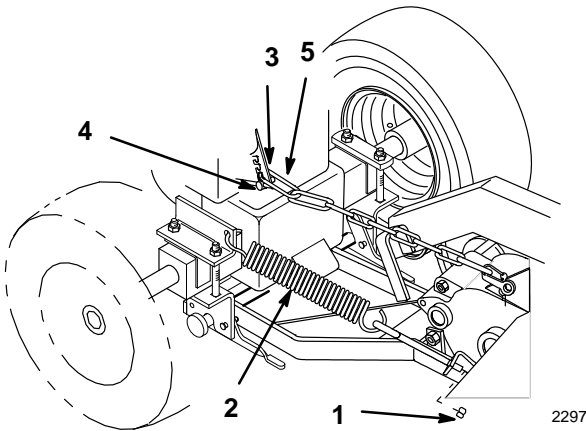

Figure 21
12. Loosen lock nut on eye bolt and unhook lift assist spring from tractor (Fig. 21).
14. Remove hairpin cotter and trunnion from lift arm and unhook long link of lift chain from lift arm (Fig. 21). Install trunnion and hairpin cotter (Fig. 21).